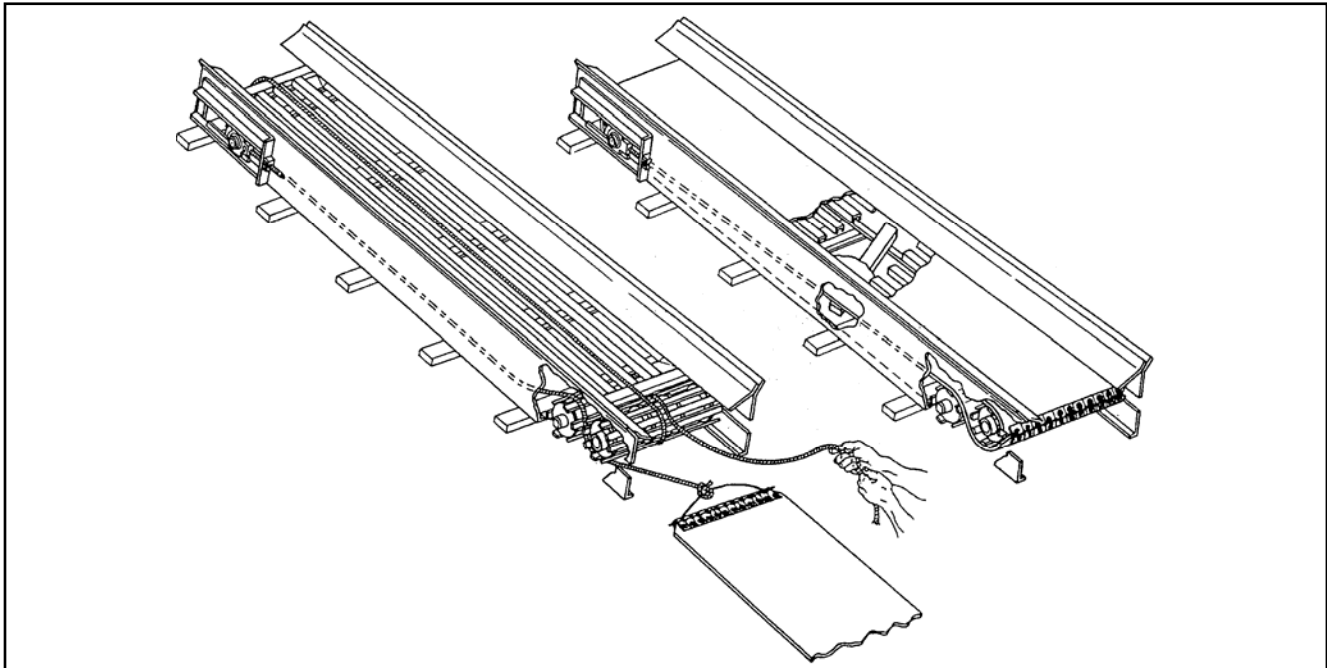

Figure 21 – #5 Belt Installation
12. Shut off all power and insert lumber under belt to support its weight as shown in Figure 21.